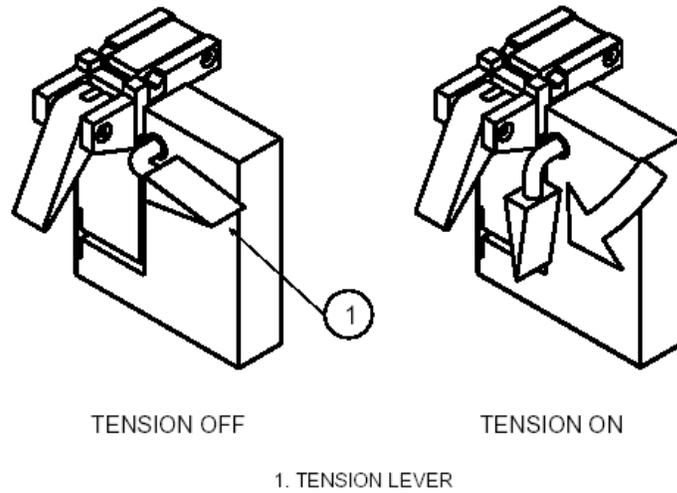

Figure 4: Fiber Tension Lever
4. Fiber Tension Lever (shown in detail in Figure 4)
2. Set the clamp and cleaving levers in the UP position. With the levers in the up positions, the clamps are open, the Left Clamp is untwisted and the blade is back in the START position. The Fiber Tension Lever (shown in Figure 4) is in the READY (off) position with the lever up.
6. Move the Tension Lever smoothly downwards to the TENSION ON position (see Figure 4).